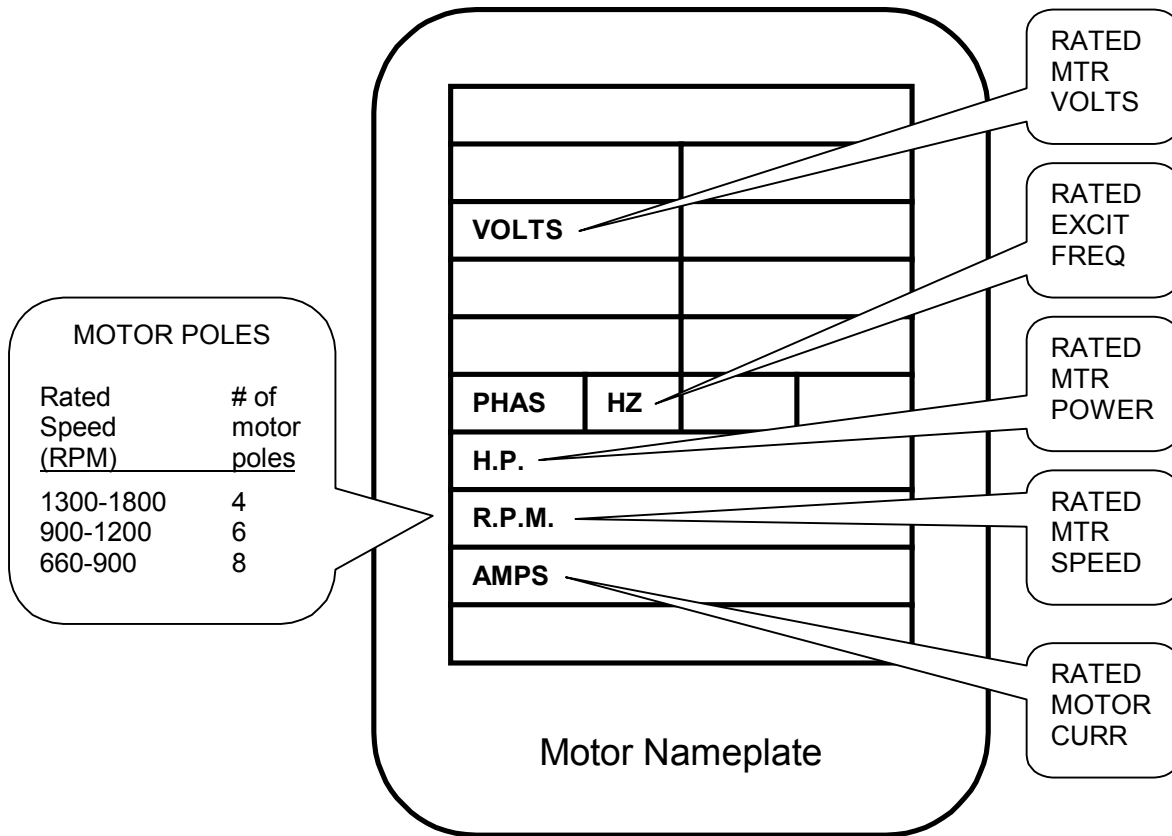

Figure 5. 44 - Motor Parameters Entered from Motor Nameplate
- Now, enter the motor nameplate data into the needed motor nameplate parameters (see Figure 5. 44)